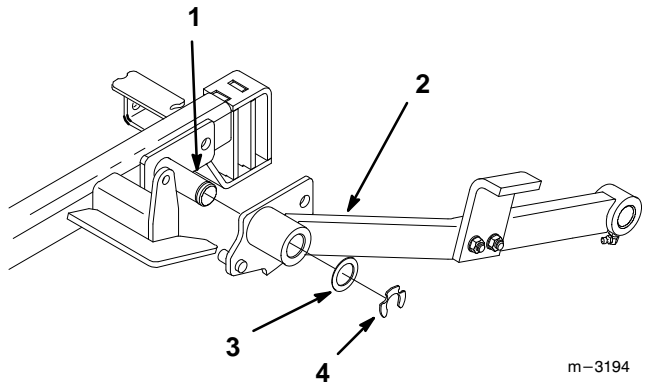

Figure 36
3. Remove the retaining ring and flat washer securing the push arm to the mower (Fig. 36).
6. Place push arm onto carrier frame pin and secure with 1-1/2" (38 mm) flat washer and retaining ring (Fig 36).